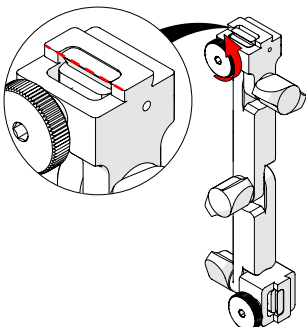

Fig. 18 - Loosen camera mount knob
1. Loosen the camera mount thumb screw on the camera bracket (Fig. 18).